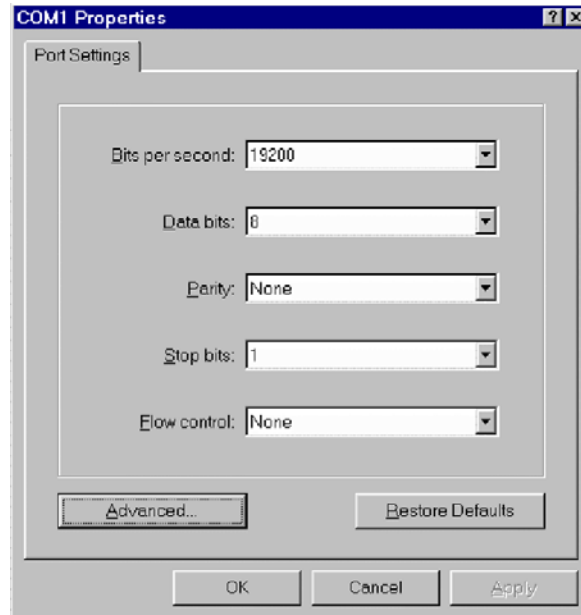

Figure 17. COM1 Properties window
- Configure your COM port settings as shown in figure 17, then click **OK**.